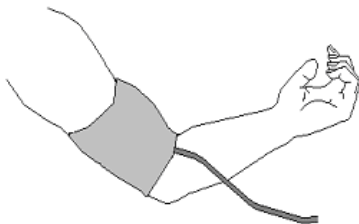

Figure 3.2 Cuff position
1. Applying the cuff: unfold the cuff and wrap it around the upper arm evenly to the appropriate tightness. The correct cuff position is as shown in figure 3.2.